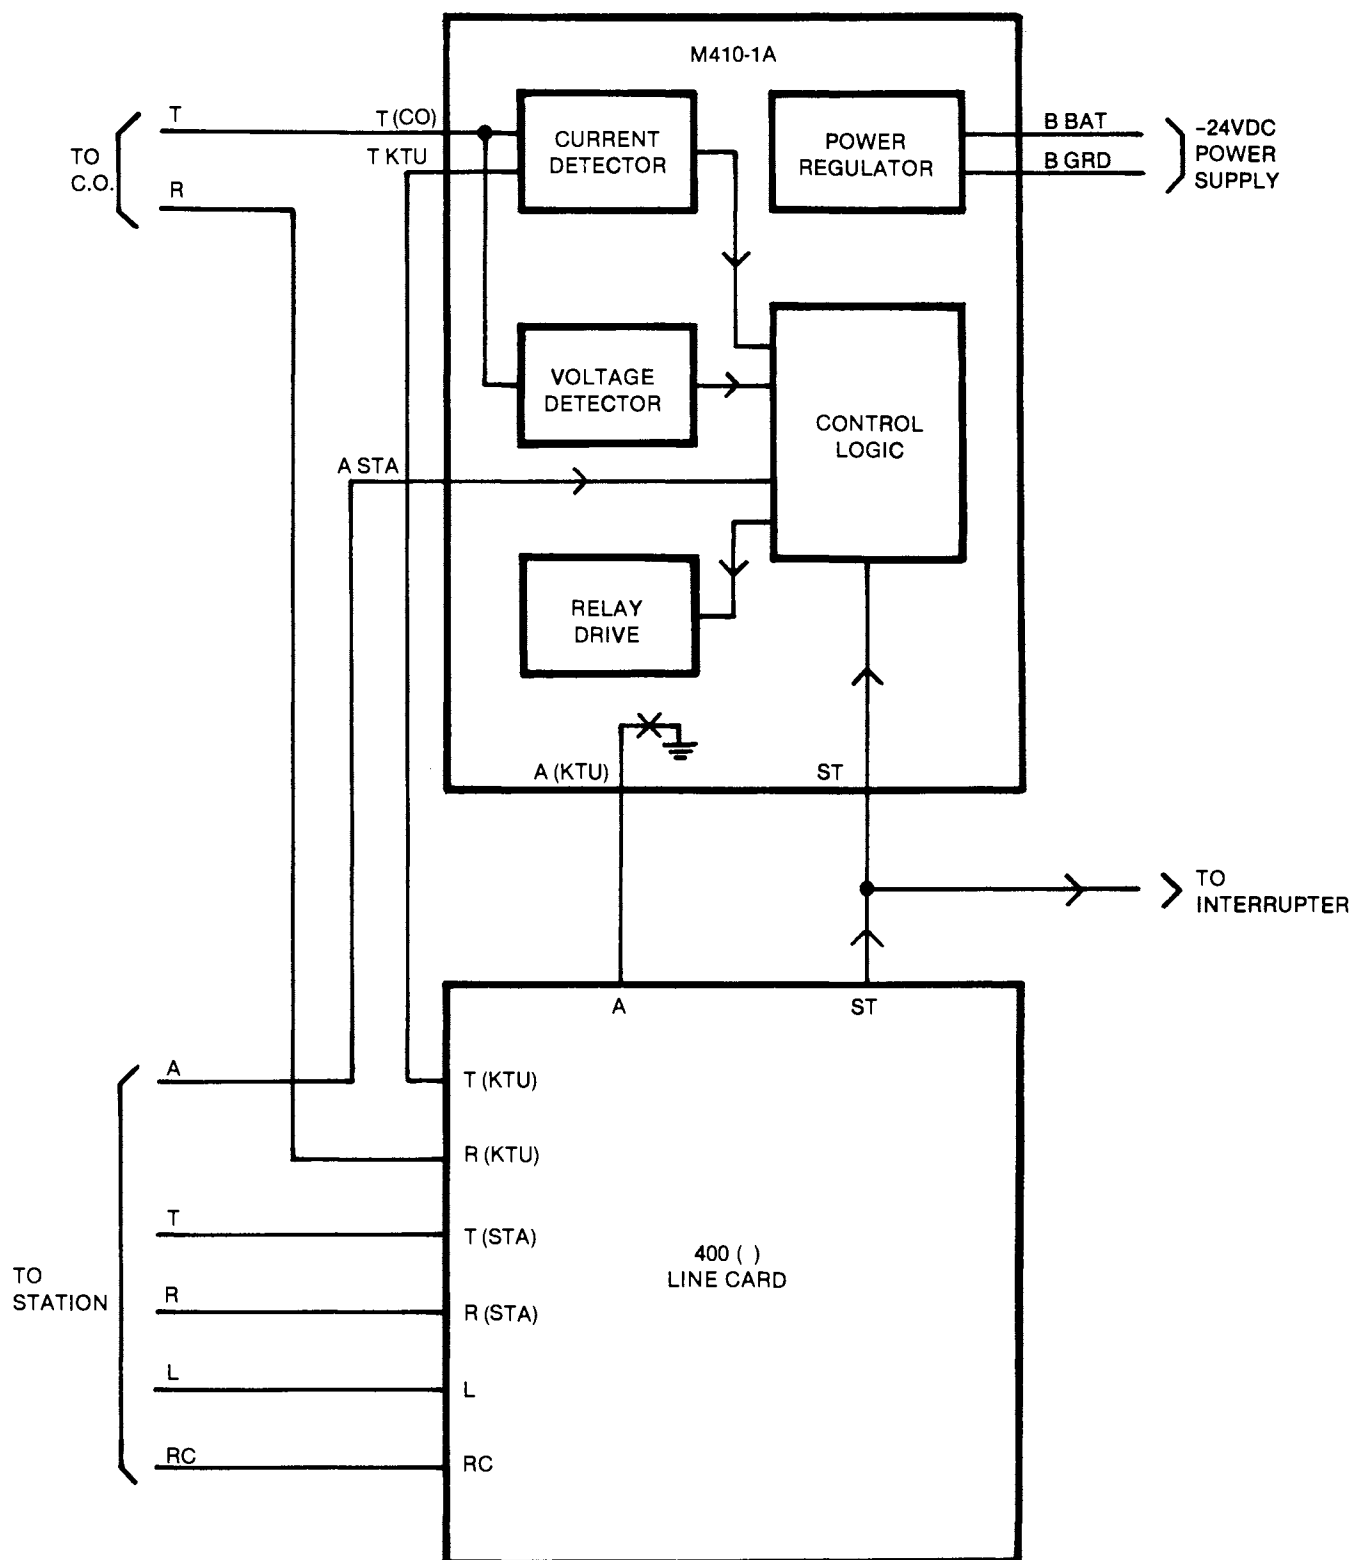

Fig. 3 — Block Diagram of M410-1A.
**4.02** Equipment and connections required to extend a central office line to an off-premise location are shown in Fig. 3.